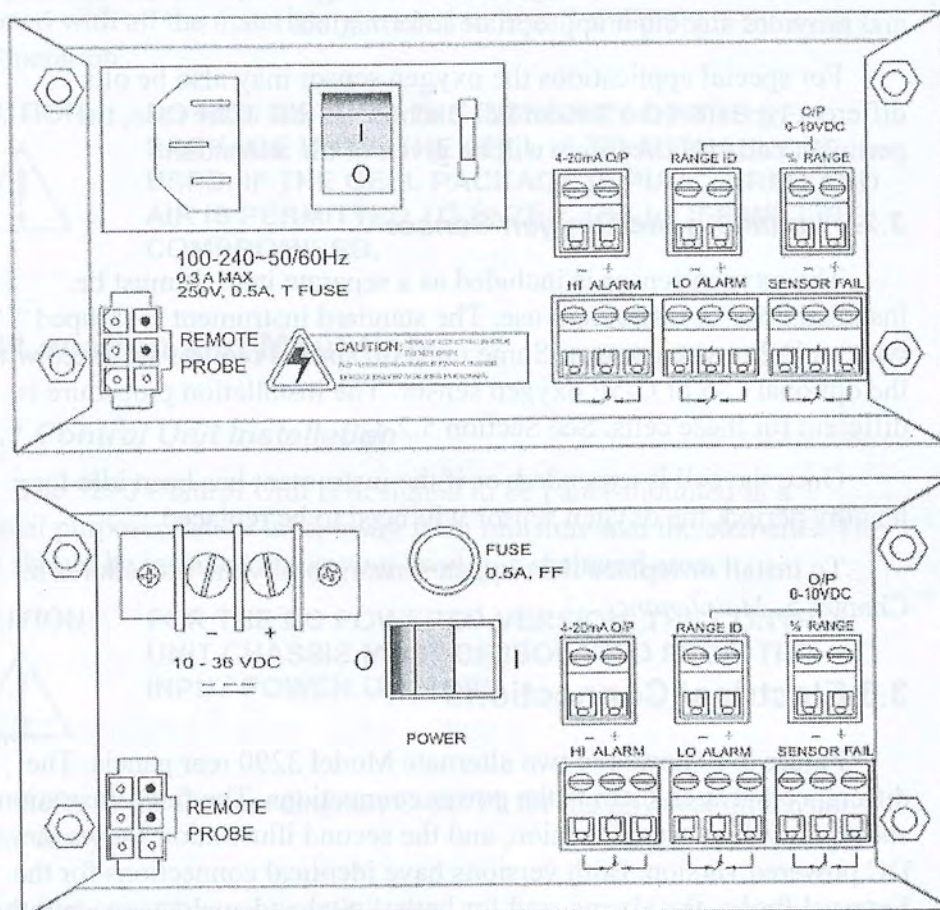

Figure 3-1: Rear Panel Electrical Connectors for AC & DC Units
Figure 3-1 shows the two alternate Model 3290 rear panels. The difference between them is the power connections. The first illustration shows the AC powered version, and the second illustration shows the DC powered version. Both versions have identical connections for the External Probe, the alarms, and for both digital and analog concentration outputs. For detailed pinouts, see the wiring/interconnection drawings in the Drawings section at the rear of this manual.
**Analog Outputs:** There are three DC output signal connectors with screw terminals on the panel. There are two wires per output with the polarity noted. See Figure 3-1. The outputs are: